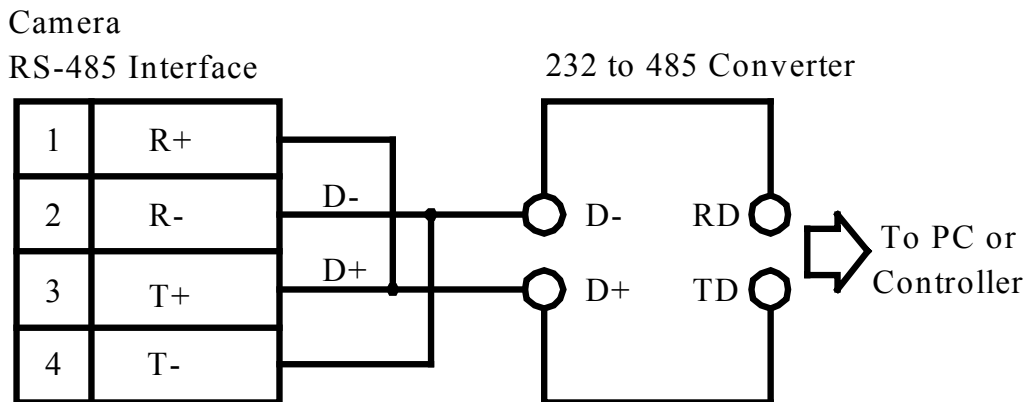

Figure 6-3
- RS-485 interface is used for communicating native keyboard. Refer to Figure 6-3; connect R+ and T+ of the camera together; connect R+ and T+ of the camera to D+ of the native keyboard. Connect R- and T- of the camera together; connect R- and T- of the camera to D- of the native keyboard.